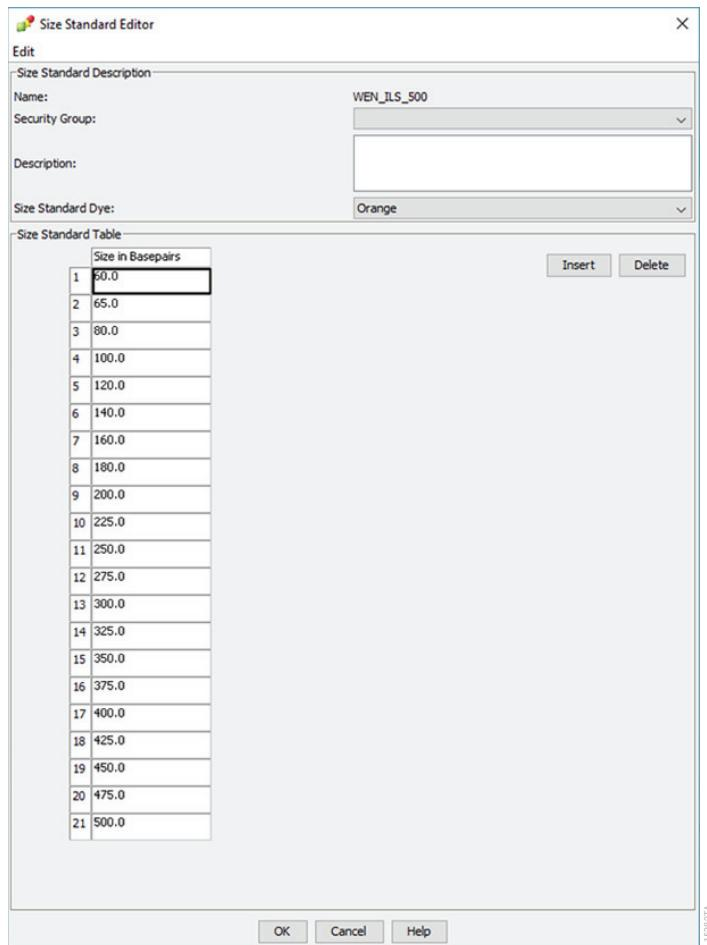

Figure 23. The GeneMapper® ID-X Size Standard Editor.
4. In the 'Size Standard Editor' window (Figure 23), select **GeneMapper ID-X Security Group** as the Security Group. This allows access for all users of the software. Other security groups may be used.